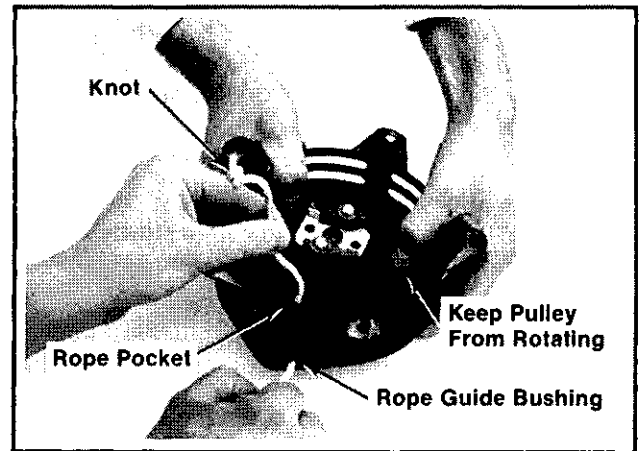

Figure 7-6. Installing Rope.
9. Insert the new rope into the rope pocket of pulley and through rope guide bushing in housing. Refer to Figure 7-6.